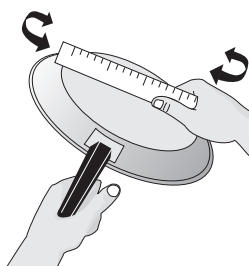
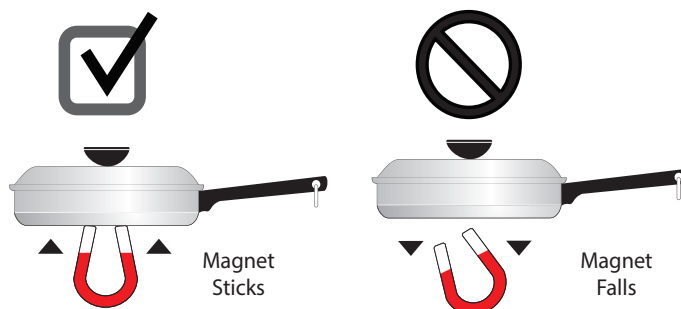

Figure 2: Ruler test
Figure 4: Magnet test
The size and type of cookware used will influence the heat setting needed for best cooking results. Be sure to follow the recommendations for using proper cookware as illustrated in Figure 2 and Figure 4.
Check for flatness by rotating a ruler across the bottom of the cookware (see Figure 2). Cookware should have flat bottoms that make good contact with the entire surface of the cooking zone (see Figure 6 on page 10).
- **Stainless Steel** - Slow heat conductor with uneven cooking results. Durable, easy to clean, and resists staining. Some types of stainless steel will not work on an induction cooktop. Use the magnet test (Figure 4) to check stainless steel cookware.
- **Porcelain-enamel on metal** - Heating characteristics will vary depending on the base material. Porcelain-enamel on a compatible metal will work on an induction cooktop. Use the magnet test (Figure 4) to check porcelain-enamel cookware.
To see if a piece of cookware will work on your induction cooktop, try to stick a magnet to it (see Figure 4).